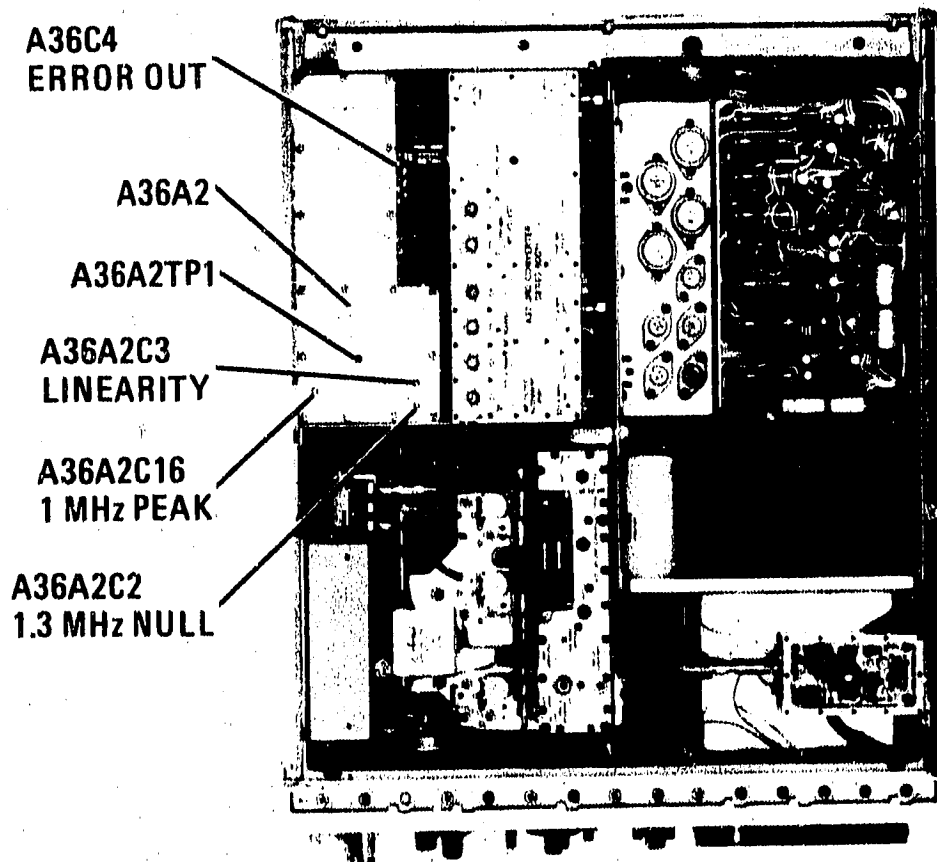

Figure 5-46. Tuning Stabilizer VCXO Adjustment Locations
21. Remove A36A2 cover plate (Figure 5-46) for access to test points and center A36A2C3 LINEARITY.